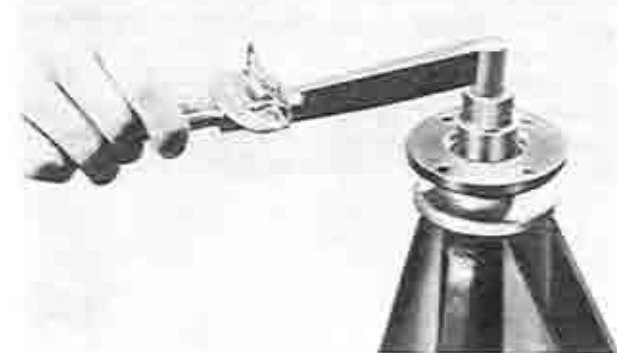

Fig. 9-21 Checking of preload
6. Tighten the pinion nut to 13 m-kg (94 ft-lb) and check the preload as shown in Fig. 9-21.